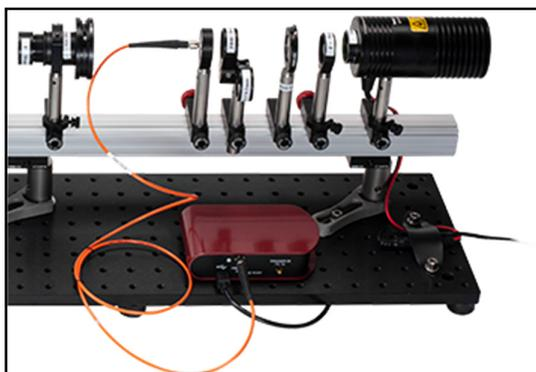

Figure 1: Spectrometer fiber mounting and positioning
10. Insert a rail carrier with the fiber-mount on it and the spectrometer fiber attached, as shown in Fig. 1, below: